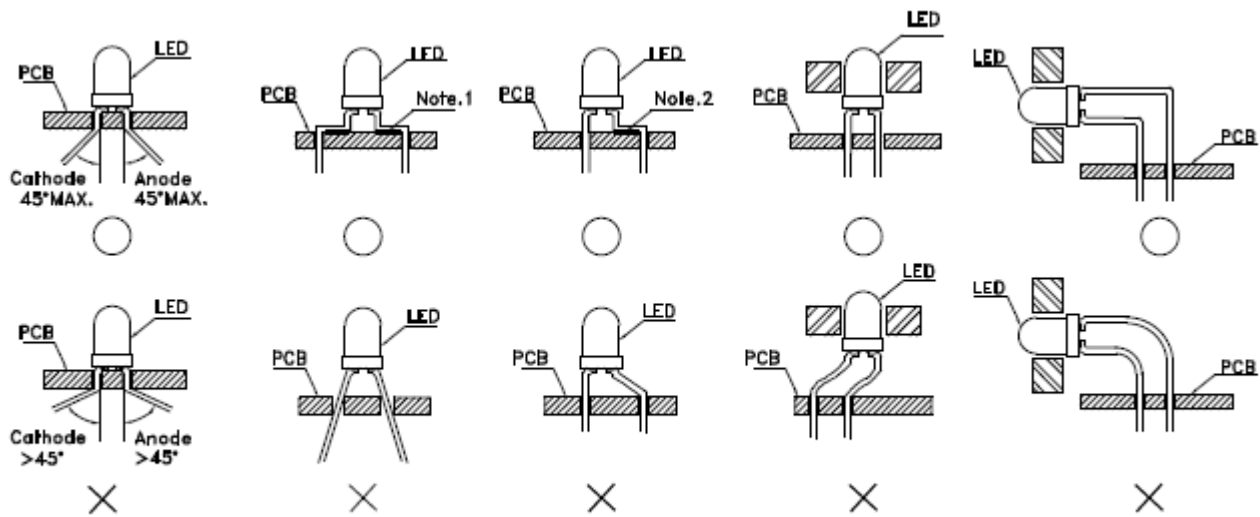

Fig. 1
1. The lead pitch of the LED must match the pitch of the mounting holes on the PCB during component placement. Lead-forming may be required to insure the lead pitch matches the hole pitch. Refer to the figure below for proper lead forming procedures (Fig.1).